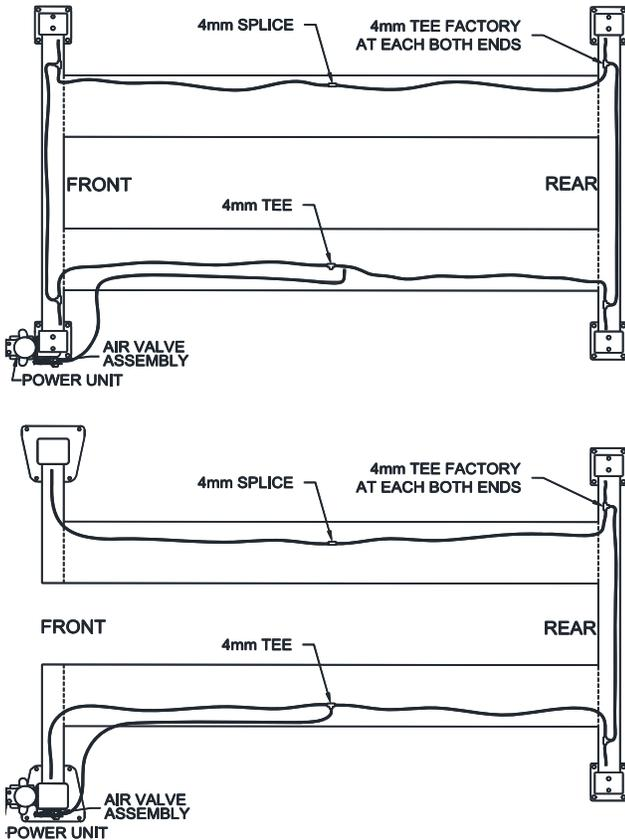

Fig 23 – Lock Release Air Line Routing
- 58) Install 4mm air line from air valve assembly thru opening in runway to Tee. See **Fig 23**